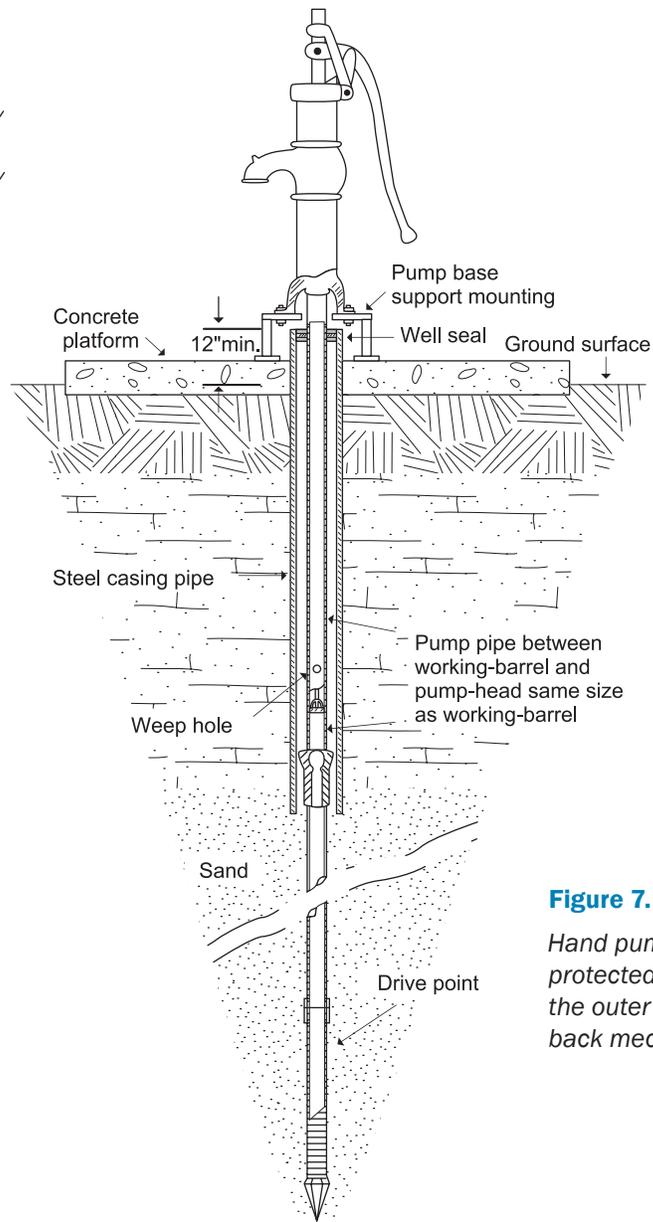

**Figure 5.**
- Outside, unprotected for warm season operation (**Figure 5**).